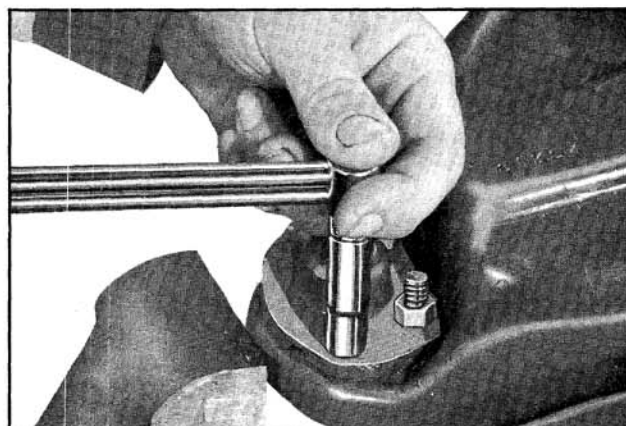

Fig. 9-19 Installing Upper Ball Joint
4. Install a new ball joint and seal assembly into the control arm. Fasten with the bolts and nuts supplied with the parts package. Install bolts from bottom side of control arm. Torque nuts to 8 ft. lbs. (Fig. 9-19)